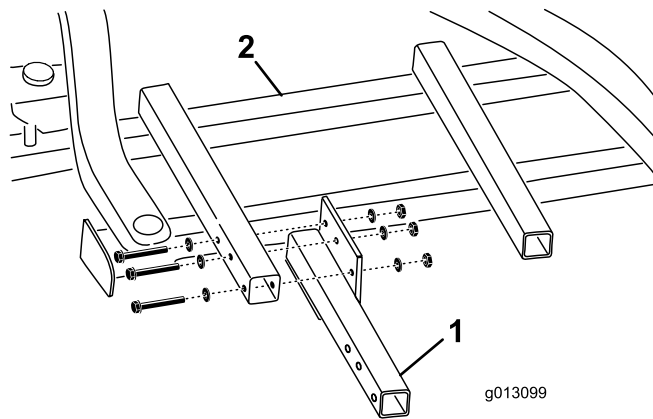

Figure 2
2. Loosely install the left arm to the attachment frame using 3 bolts (7/16 x 3 inches), 3 locknuts (7/16 inch), and 6 washers (Figure 2).